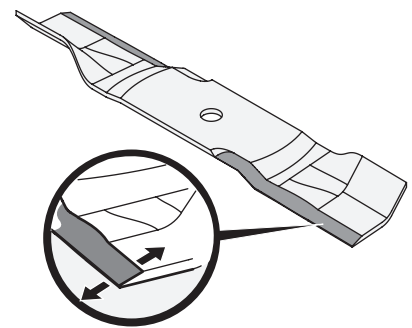

Figure 59
3. To properly sharpen the cutting blades, remove equal amounts of metal from both ends of the blades along the cutting edges, parallel to the trailing edge, at a 25°-30° angle. Always grind each cutting blade edge equally to maintain proper blade balance. See Figure 59.